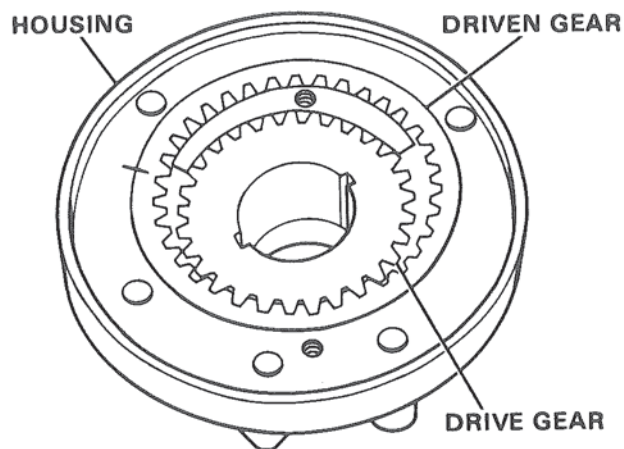

Figure 107. Installing Pump Gears.
4. Place housing, lubricated with automatic transmission fluid type "A" suffix "A", and complete with seal in position shown in Figure 107. Install lubricated gears as shown, with reassembly identification marks matched.